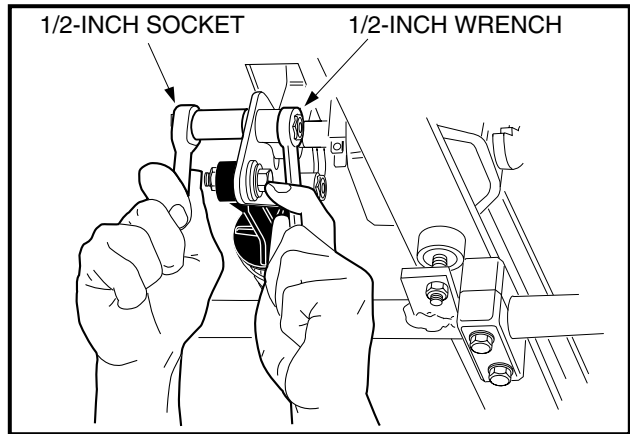
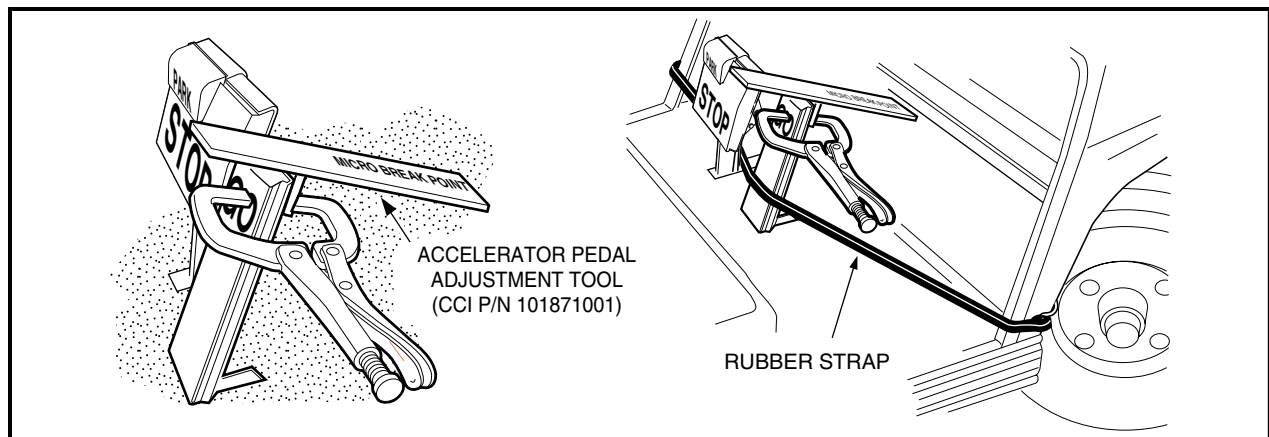

Figure 5-17 Accelerator Pedal Height Adjustment
Figure 5-18 Accelerator Pedal Height Adjustment
- 4.1. Loosen the nut and bolt (Figure 5-17, Page 5-14) securing the accelerator pedal to the pivot plate. Clamp the accelerator pedal adjustment tool (CCI P/N 101871001) to the accelerator pedal, with the end marked *accelerator pedal height* closest to the floorboard. Depress the accelerator pedal until the end of the tool rests against the floorboard; pedal height should be 5-5/8 inches (14.3 cm). Use a rubber strap to hold pedal in position against the floorboard and then tighten nut to 26 ft-lb (35.3 N·m) (Figure 5-18, Page 5-14).